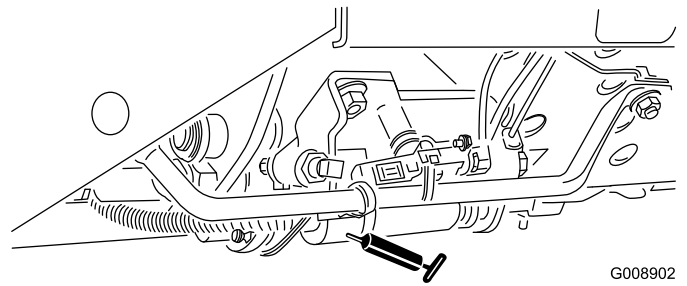

Figure 55
- Mow/transport slide (Figure 55)